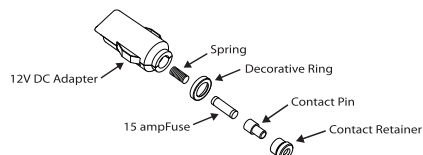

Figure 1. Fuse Replacement
The 200 and 400W inverter contains a fuse inside in the lighter adapter (see Figure 1) to protect the unit against overloading. If the inverter draws more than 150 watts, the internal fuse may open to protect the inverter, vehicle battery, and the connected equipment. To replace the fuse, please follow the instructions below:
5. Ensure all pieces shown in Figure 1 are installed in the correct sequence.